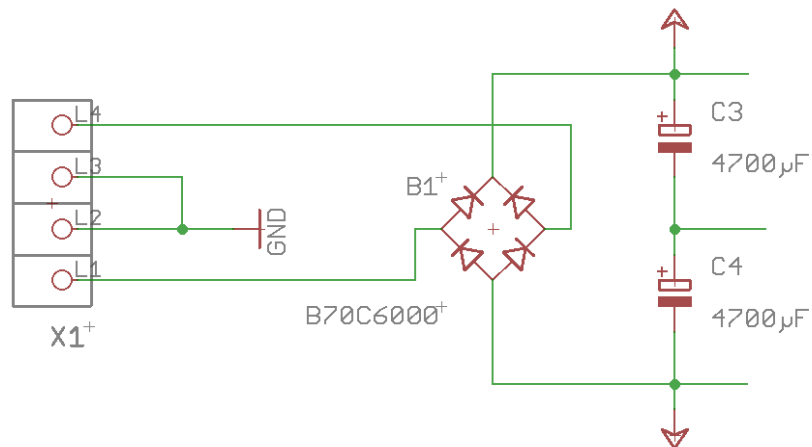

Figure 8: AC Input Circuit Diagram
5. Connect the secondary windings of the transformer (Figure 8)